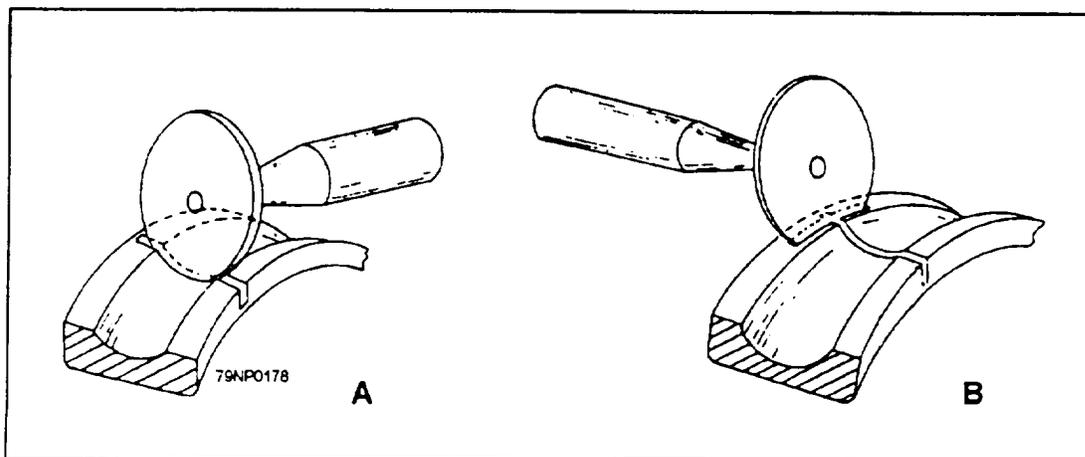

Figure 7-7.—Removing seized inner ring of bearing.
6. Make two cuts to the inner ring at two different points as illustrated in figure 7-7. Be careful to